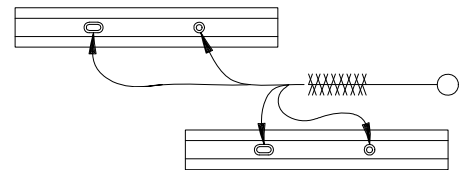

Figure 6-8 Clean beater shaft pin holes.
e. The beater shaft and the scraper blade pin holes as shown in figure 6-8.